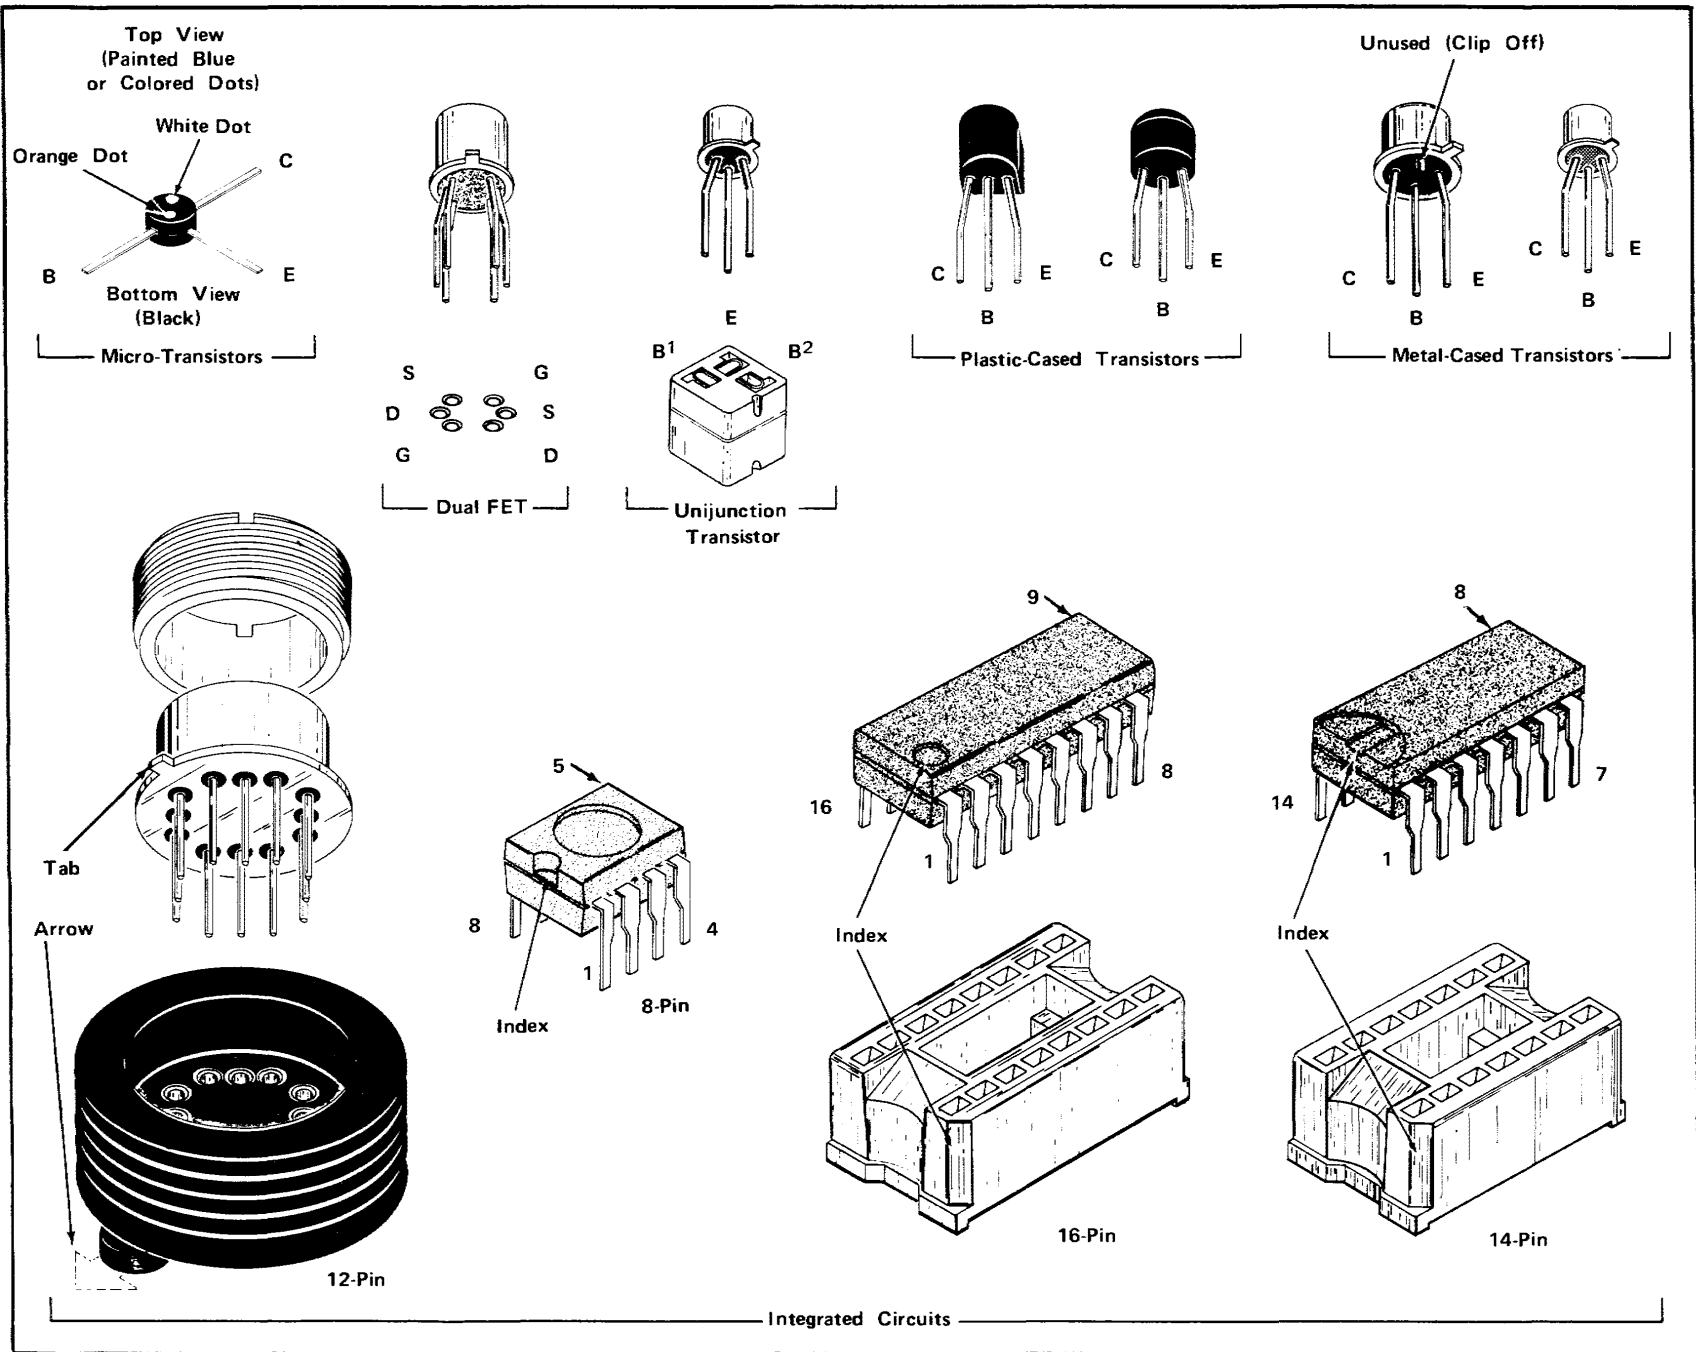

Fig. 4-1. Electrode configuration for semiconductors in this instrument.
Semiconductor Lead Configuration. Fig. 4-1 shows the lead configuration of the semiconductor devices used in this instrument.
A. **TRANSISTORS AND INTEGRATED CIRCUITS.** The best check of transistor and integrated circuit operation is actual performance under operating conditions. If a transistor or integrated circuit is suspected of being defective, it can best be checked by substituting a component known to be good; however, be sure that circuit conditions are not such that a replacement might also be damaged. If substitute transistors are not available, use a dynamic tester (such as Tektronix Type 576). Static-type testers may be used, but since they do not check operation under simulated operating conditions, some defects may go unnoticed. Fig. 4-1 shows base pin and socket arrangements of semiconductor devices. Be sure the power is off before attempting to remove or replace any transistor or integrated circuit.